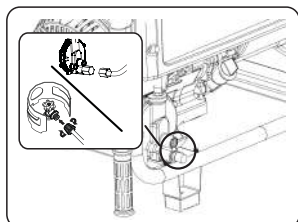

Fig 8
- Connect the gas pipe to the intake fitting of regulator , and tighten Open the valve of LPG bottle (See fig 8)